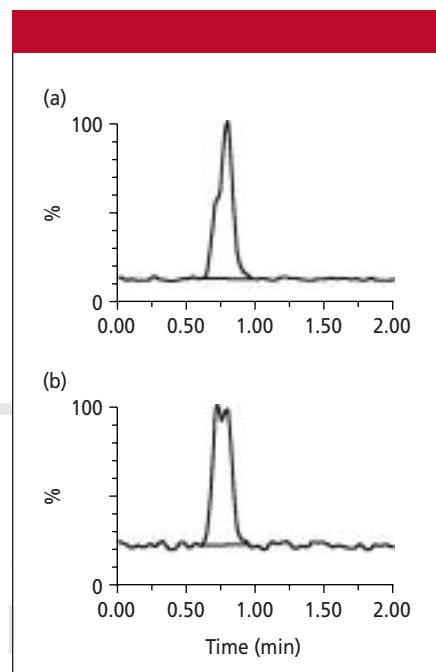

Figure 1: Split peaks due to the presence of a second component. (a) 25 ng/mL and (b) 10 ng/mL of drug (second peak) in plasma.
We encountered this situation with the problem discussed in last month's "LC Troubleshooting" (1). Figure 1 shows portions of the chromatograms that were of concern. In Figure 1a, a shoulder on the front of the main peak became a second peak (Figure 1b) when we reduced the amount of sample. Changing the mass of injected sample is a simple way to help elucidate the characteristics of a chromatogram. If the shoulder were a distortion of a single peak, it would be more likely to change in proportion to the injection size than to resolve into a second peak, as seen in Figure 1. After changing the injection mass, we could take logical steps to change the chromatographic conditions and find conditions that provide acceptable resolution of two different compounds.